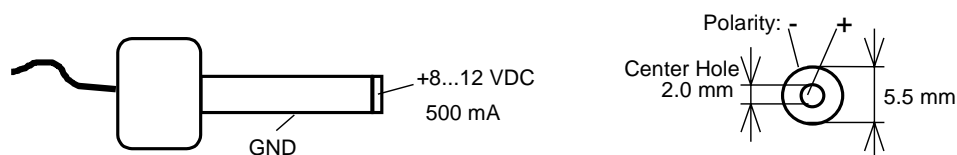

Figure 4: Power Connector
- Using the included power adapter, connect the power socket on the board (P3) to a power supply (refer to Figure 4 for the correct polarity).